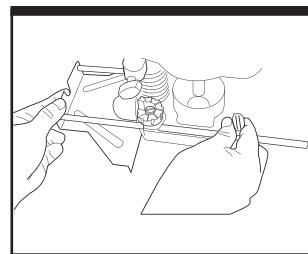

Fig. 8
6. INSTALLER LE GUIDE PARALLELE (Fig. 8)